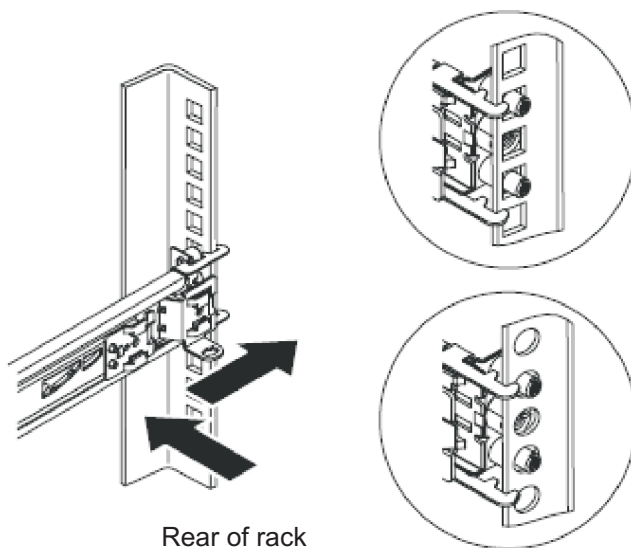

Figure 69. Installing the rear end of the slide rails
3. Install the rear end of the slide rails, as shown in Figure 69.